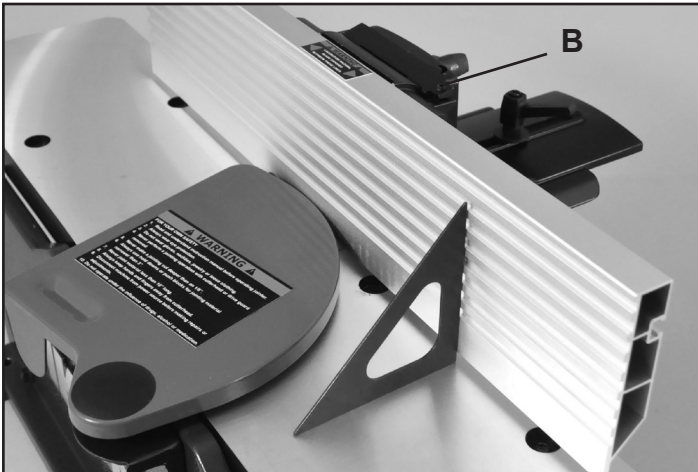

FIG. 6
6. Use an Angle Gauge to measure the 90° & 135° angles between the Fence and Jointer Table Top. Adjusting can be done by loosening / tightening the Hylock Hex Socket Head Screws (B). FIG. 6 & 7.